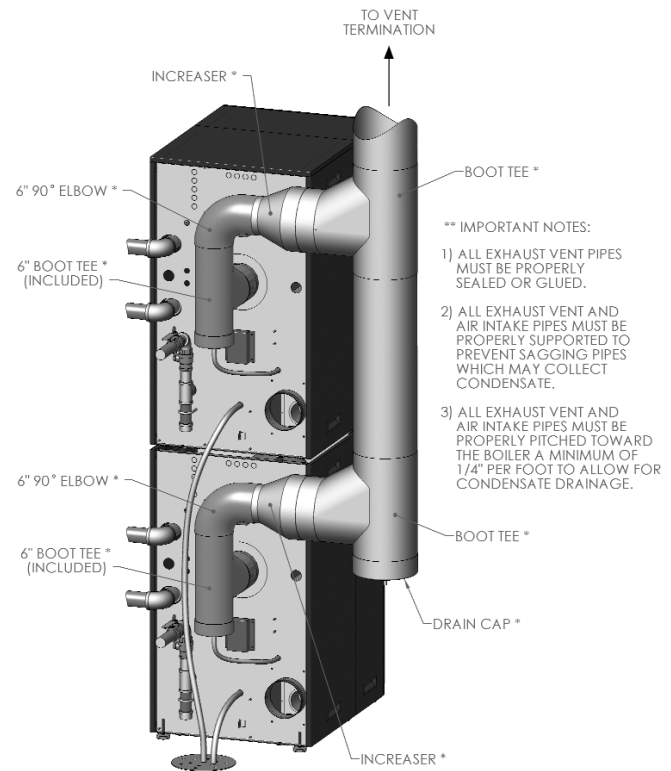

Figure 3.11: Multiple Boilers with Common Venting
2. Figure 3.11 shows two *PUREFIRE*® PF-850 boilers connected with a common vent system.